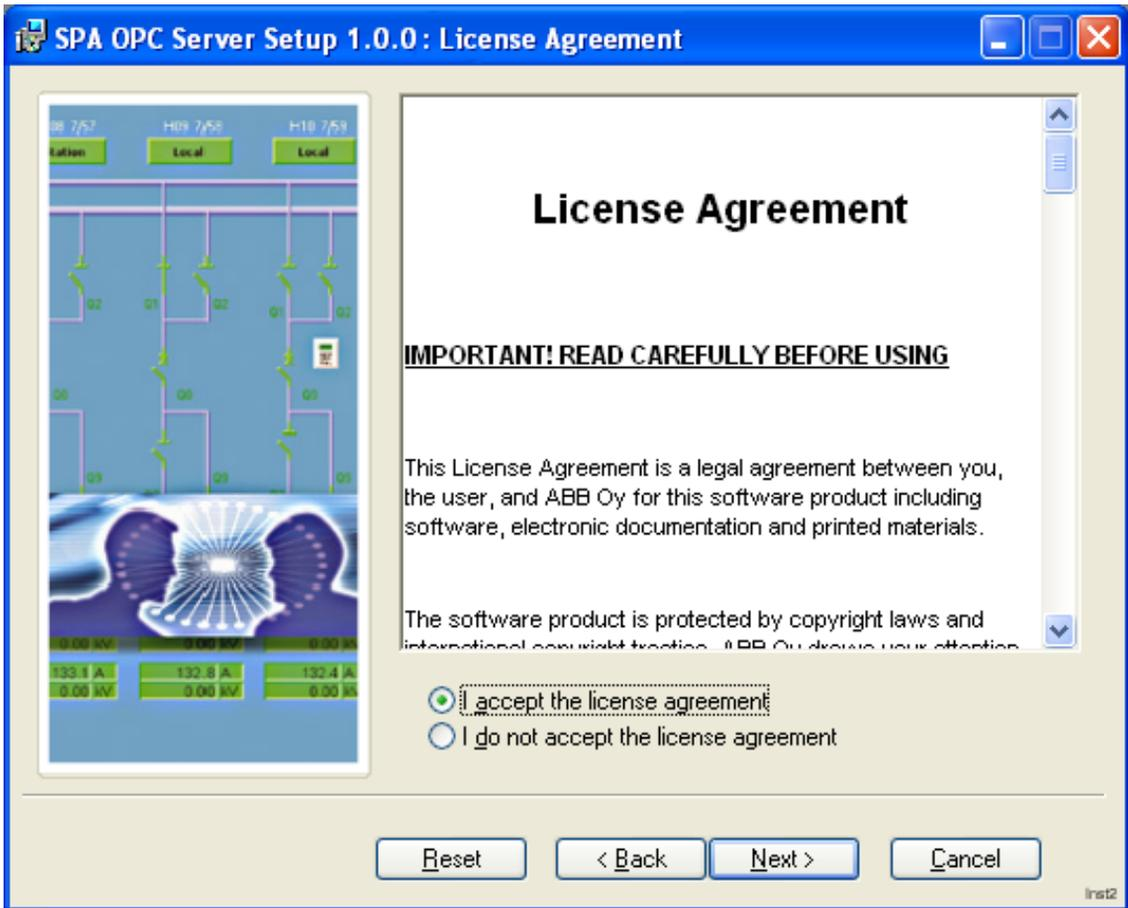

Figure 2-2: License Agreement dialog box
2. The License Agreement dialog box appears on the screen. Read the License Agreement and choose the “I accept the license agreement” radio button to accept the terms of it, and click **Next** to continue, see Figure 2-2.